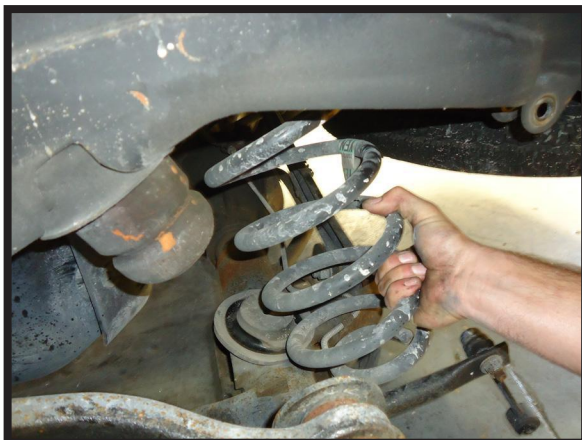

FIGURE 60
13. SLOWLY LOWER THE AXLE AND REMOVE THE COIL SPRINGS. (FIGURE 60)